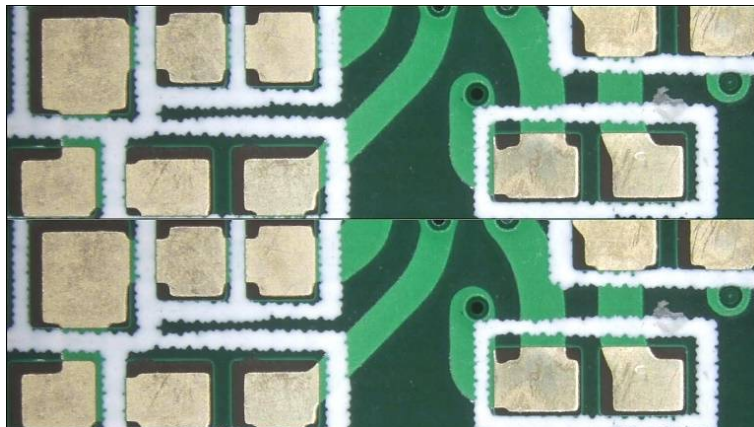

Fig 5-53 Bottom Side Compare mode
- Bottom Side Comparison : Enable/Disable the Bottom Side Compare mode. The loaded image is on Bottom side. Top side image is live preview image. Fig 5-53 Transparency: 100%, Image Location: 100%, Offset Ratio: 0%, Image Ratio: 50%.